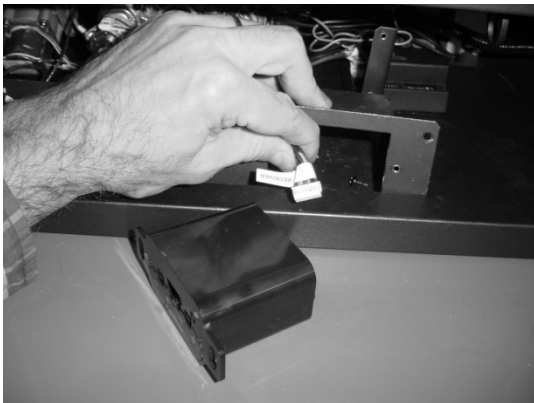
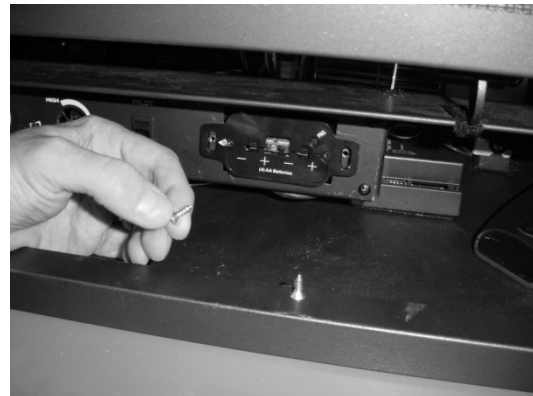

Figure 27
Figure 28
- 18 Pull the "RECEIVER" connector through the control panel and attach to the receiver (see Figure 27). Then attach the receiver to the control panel with the two #8 machine screws (see Figure 28).